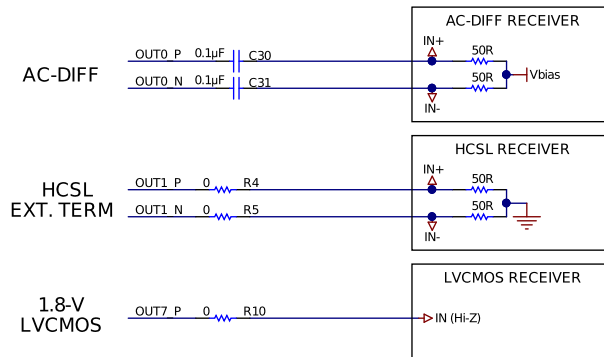

图 64. LMK05318 Reference Schematic Example
图 64 shows a reference schematic to help implement the LMK05318 and its peripheral circuitry. Power filtering examples are given for the core supply pins and independent output supply pins. Single-ended LVCMOS, AC-coupled differential, and HCSL clock interfacing examples are shown for the clock input and output pins. An external LVCMOS oscillator drives an AC-coupled voltage divider network as an example to interface the 3.3-V LVCMOS output to meet the input voltage swing specified for the XO input. The required external capacitors are placed close to the LMK05318 and are shown with the suggested values. External pullup and pulldown resistor options at the logic I/O pins set the default input states. The I2C or SPI pins and other logic I/O pins can be connected to a host device (not shown) to program and control the LMK05318 and monitor its status. This example assumes the device will start up from EEPROM mode with an I2C interface (HW\_SW\_CTRL = 0).
- For a 3.3-V LVCMOS driver, follow the OSC clock interface example in 图 64. Power the OSC from a low-noise LDO regulator or optimize its power filtering to avoid supply noise-induced jitter on the XO clock.
- Reference inputs: Follow the LVCMOS or differential clock input interface examples in 图 64 or Clock Input Interfacing and Termination.
- Clock output Interfacing: Follow the single-ended or differential clock output interface examples in 图 64 or Clock Output Interfacing and Termination.
- Power all the VDD pins with proper supply decoupling and bypassing connect as shown in 图 64.